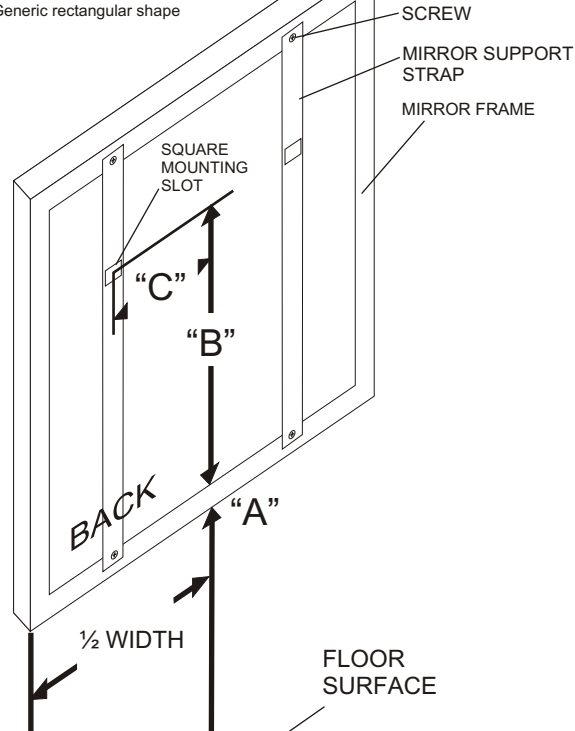

FIGURE 3. (Horizontal)
1. (Refer to FIGURE 3) Lift and position where MIRROR will reside on wall surface and with a tape measure, mark distance from floor to the bottom edge of frame with a pencil. Mark should be located at a point representing 1/2 of mirror width. (MARK "A") **(Please note Quoizel recommends (2) people for this step)**
2. Place the MIRROR on flat surface with back facing you. Measure the distance from the bottom edge to the center of (1) RECTANGULAR MOUNTING SLOT (located on underside of SUPPORT BAR) (Distance "B" FIGURE 3). With tape measure, add this distance to MARK "A" on wall surface and mark with pencil. This represents the mirror horizontal centerline.
3. Measure the center distance from both RECTANGULAR MOUNTING SLOTS. Take this distance and divide by 2. Add each half of slot distance to each side of centerline (Distance "C" FIGURE 3). Refer to Step 4-9 above to complete installation.